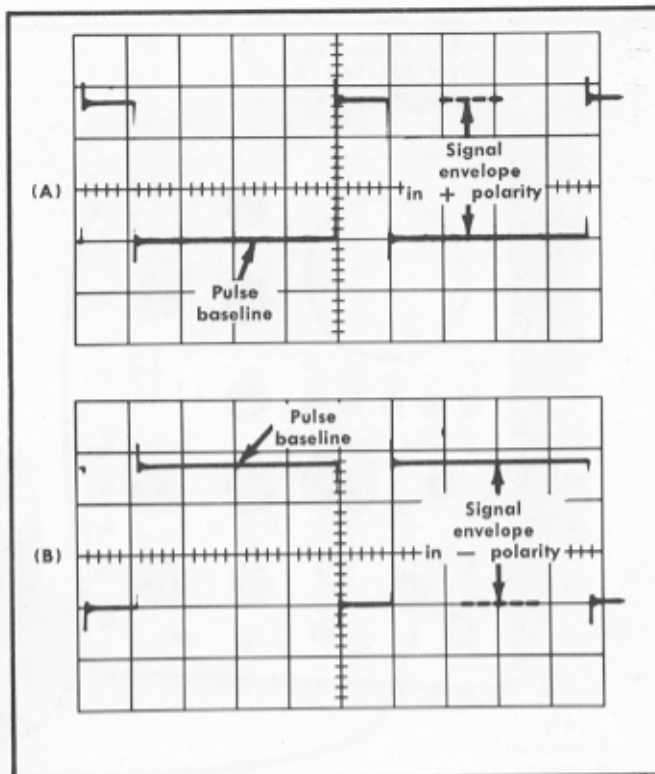

Fig. 7-16. Test oscilloscope displays for checking — polarity dc level at the emitter of Q53 (see step 11), with respect to signal ground.
- h. Check for—Test oscilloscope display with the signal envelope of the negative-going pulse at the same level as that of the positive-going pulse ± 1 mm (see Fig. 7-16).